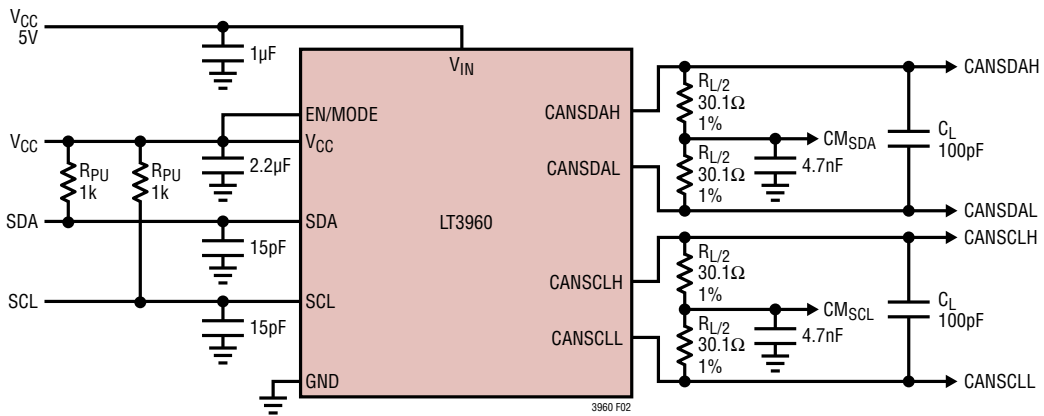

Figure 2. All Switching Characteristic Measurements
**SWITCHING CHARACTERISTICS** The ● denotes the specifications which apply over the full operating temperature range, otherwise specifications are at  $T_A = 25^\circ\text{C}$ .  $V_{IN} = 12\text{V}$ ,  $V_{CC} = 3.3\text{V}$ , Figure 2 applies with  $R_{PU} = 4.99\text{k}$ ,  $R_L = 60\Omega$ ,  $EN/MODE = V_{CC}$ , TYP values unless otherwise specified.